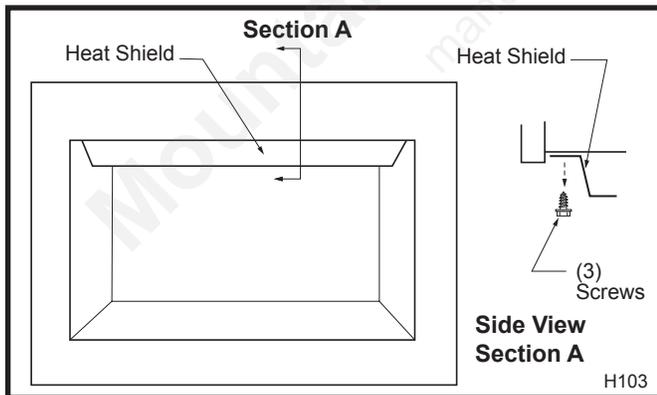

Fig. 82 Heat shield.
2. Remove three (3) screws securing heat shield to combustion dome. (Fig. 82)